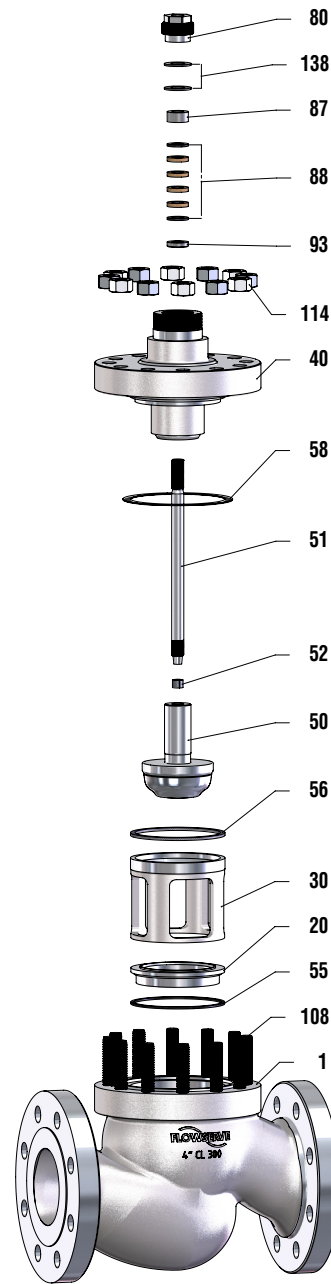

Figure 9: Disassemble / Reassemble the valve
15. Install a new profile ring (55) and seat ring (20).
16. Lower the seat retainer (30) into the body and place it on top of the seat ring (See Figure 9).
17. Lower the plug assembly (50) into the body with the plug touching the seat ring surface.